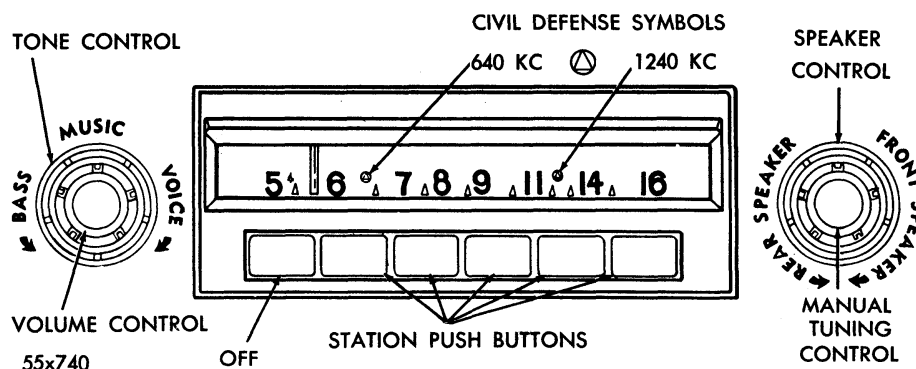

Fig. 4—Operating Instructions (Model 835)
3. RADIO OPERATION (Model 835) (Fig. 4)
Depress the "OFF" button (Fig. 4).
Turn the tone control (Fig. 4) fully counter-clockwise for bass position; mid-position for music; fully clockwise for voice.
To tune stations manually, turn the right-hand knob (Fig. 4) either left or right.